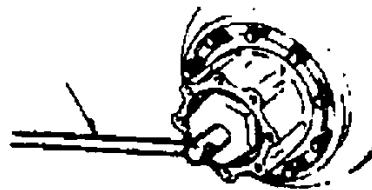

Figure 3-2
- 5) Using specialized tools to open the bolts as shown in Figure 3-2.